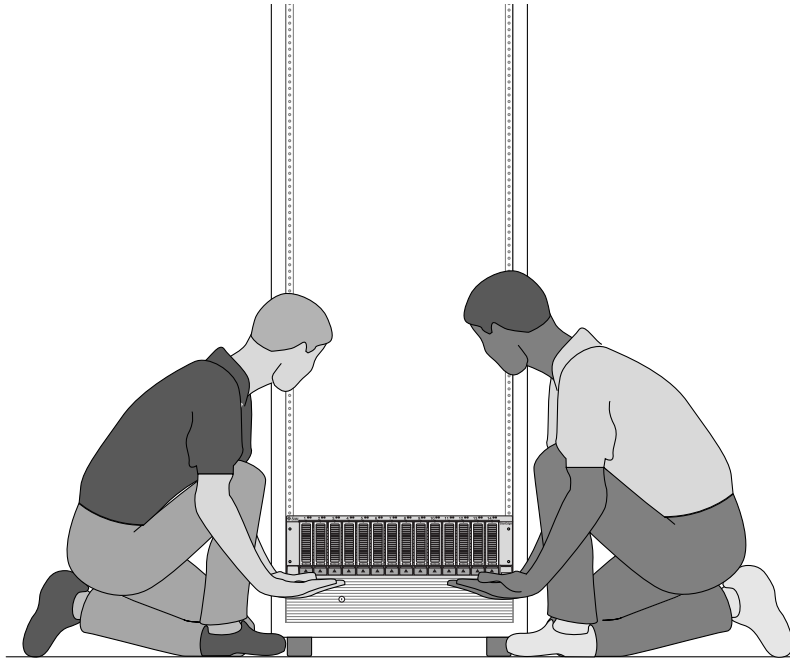

FIGURE 2-14 Positioning the Tray in the Cabinet
2. Using two people, one at each side of the array, carefully lift and rest the array on the bottom ledge of the left and right rails (FIGURE 2-14).